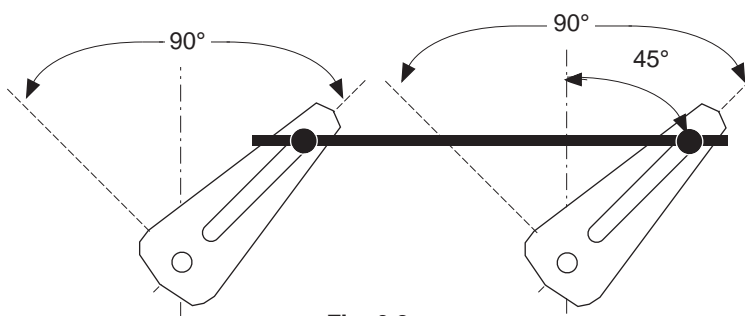

Fig. 6.2
3. The push rod and crank arms should be set up so the crank arms on both the actuator and damper rotate 45 degrees from a line perpendicular from the rod to the center of the crank arm rotation. This provides a balanced torque load to the damper and minimizes any chance of the linkage binding. See figure 6.2.